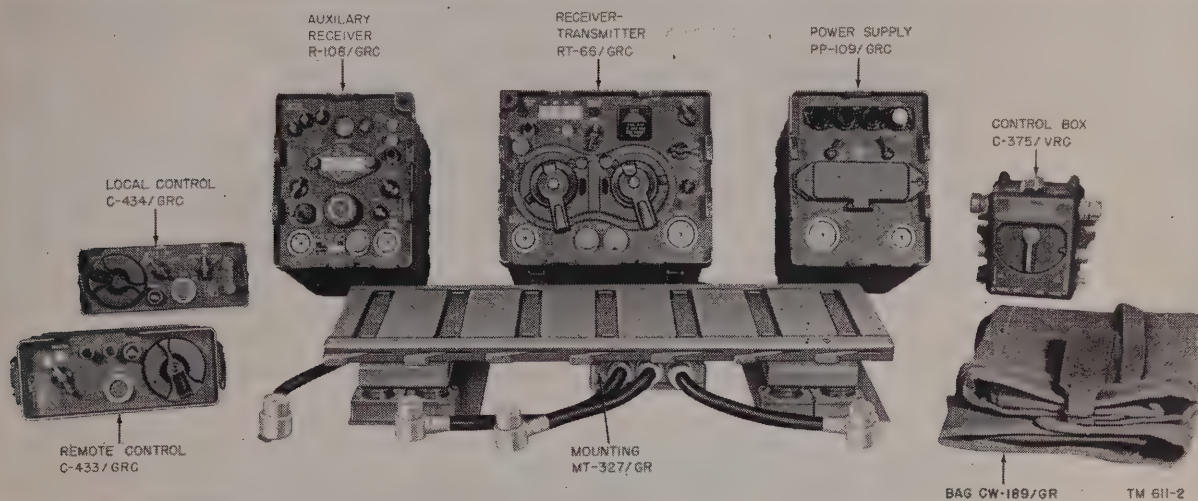

Figure 3. Components of Radio Set AN/VRC-16.
a. INTRODUCTION. All of the basic radio sets have the following items in common: a receiver-transmitter, a receiver, suitable power supplies, a mounting, three control units, suitable antenna systems, and interconnecting cables. Radio Set AN/VRC-16 (fig. 3) described in *b* below is typical of all the sets discussed in this manual. The nomenclature outlined in paragraph 2 and the listing of components (table I) will facilitate adaptation of the description to Radio Sets AN/VRC-17 and -18. The system cordage diagram (fig. 26), which is essentially a composite illustration of all sets, also is helpful in the understanding of the various systems.
a. The following is a list of minor components (fig. 3) :
- (1) Mast Base AB-15/GR.
- (2) Mast Sections MS-116-A, MS-117-A, MS-118-A.
- (3) Adapters UG-273/U and UG-306/U.
- (4) Special Purpose Cable Assembly CX-1211/U.
- (5) RF Cable Assembly CG-568/U (4 ft. 2 in.).
- (6) Wire W-142.
- (7) Special Purpose Cable WM-46/U.
- (8) Bag CW-206/GR.
- (9) Case CY-684/GR.
- (10) Connector and bondnut, Appleton Electric Co. Nos. 61007 and BL-50.